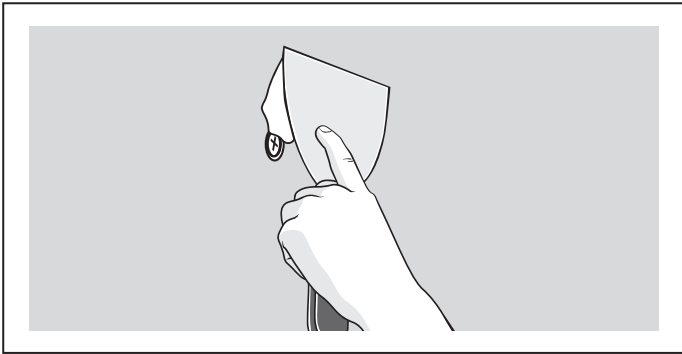
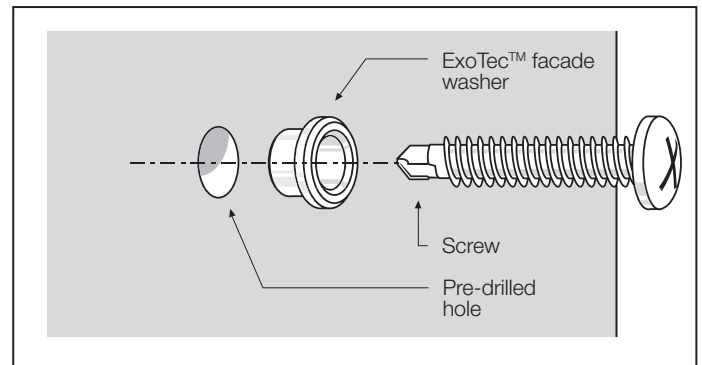

**FIGURE 10 DRILL COUNTERSINK HOLE**
**FIGURE 15 COUNTERSUNK FASTENER DETAIL**
2. Drill clearance holes into ExoTec™ facade panel, for No.10 gauge screws using a 6mm countersunk masonry drill, which provides a 6.2 to 6.3mm diameter hole, see Figure 10. Countersink hole to a depth of 2.5mm to 3mm. This is measured from the top of the screw to the top of the sheet, see Figure 15.